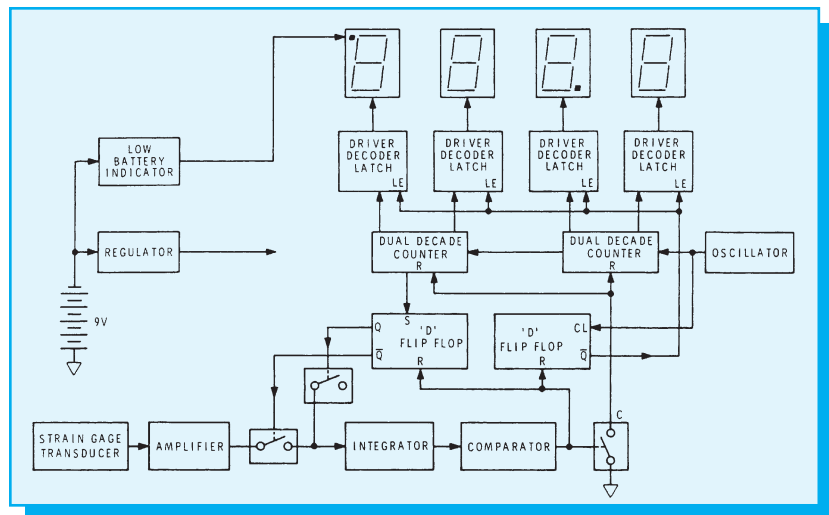

Figure I-21
3. *Schematic drawings and block diagrams* are used to show the flow of energy or work such as electricity or fluids (**Fig. I-21**).